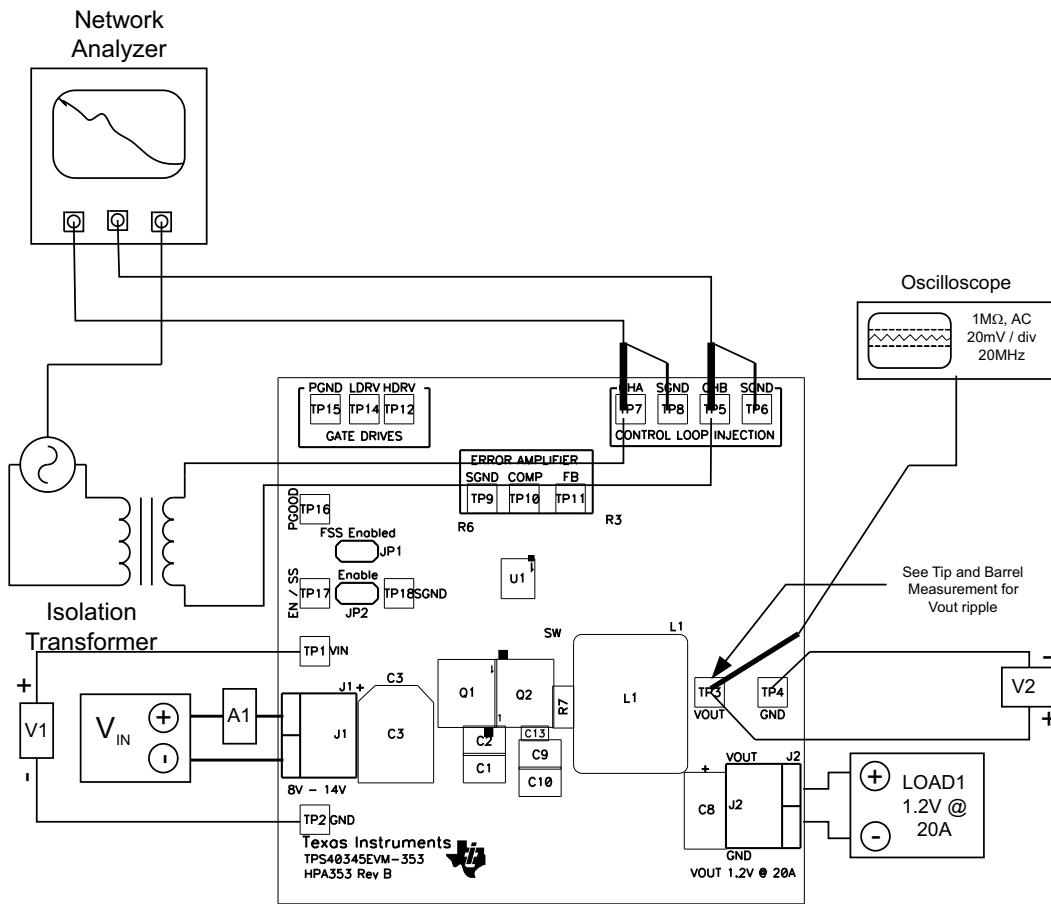

Figure 5-3. Control Loop Measurement Setup
The TPS40345EVM-353 provides four test points (2 signal and 2 ground) for measuring the control loop frequency response. This allows the user to measure the actual module loop response without modifying the evaluation board. A transformer isolated signal up to 30 mV can be injected between TP5 and TP7. The injected signal amplitude can be measured by the ac coupled amplitude at CHA (TP7) and the resulting output voltage deviation can be measured at CHB (TP5). See Figure 5-3 for additional detail.
2. Connect a 1-kHz – 1-MHz isolation transformer to TP5 and TP7 as shown in Figure 5-3.
3. Connect input signal amplitude measurement probe (channel A) to TP7 as shown in Figure 5-3.
4. Connect output signal amplitude measurement probe (channel B) to TP5 as shown in Figure 5-3.
5. Connect ground lead of channel A and channel B to TP6 and TP8 as shown in Figure 5-3.